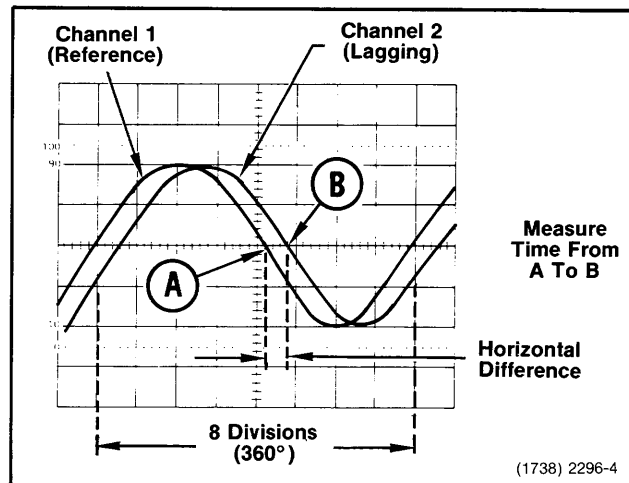
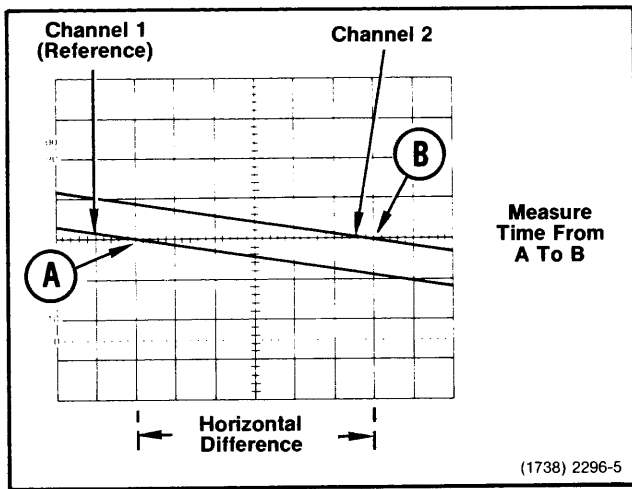

Fig. 1-3. Phase difference measurements.
Fig. 1-4. High-resolution phase difference measurement.
8. Turn the variable SECONDS/DIV control until one cycle of the reference signal (CH 1) occupies eight divisions between the second and tenth vertical lines of the graticule (see Fig. 1-3).
Assume a horizontal difference of 0.6 division with a sweep rate of 45°/div as shown in Fig. 1-3.
Figure 1-4 shows the same signals as used in Fig. 1-3, but with the X10 HORIZ MAG on.